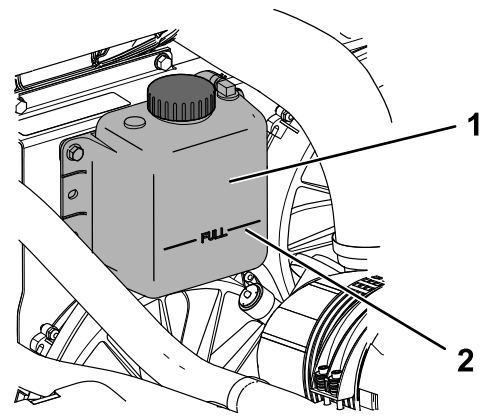

Figure 74
4. Check the coolant level in the expansion tank (Figure 74).